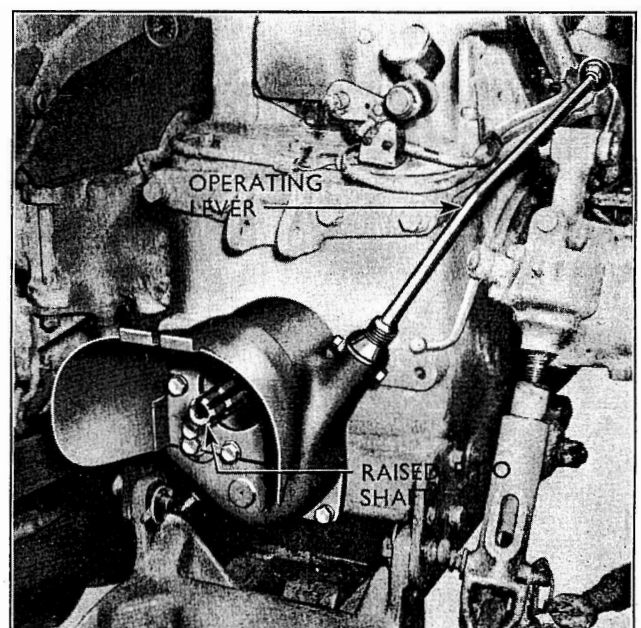

Fig. 271
- 4 Mount the assembly in position in the rear transmission housing. (See Fig. 271.)